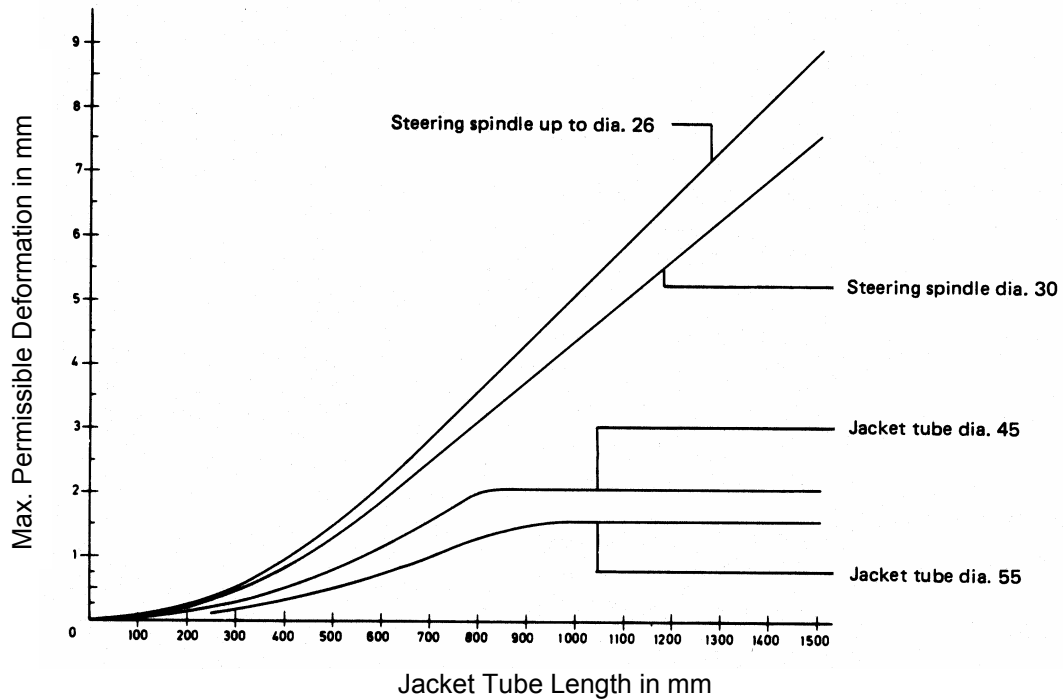

Figure 7. Steering Spindle and Jacket Tube Diameter Chart
- c) By turning steering spindle for min. 360°, check steering spindle for deformation. Measurement can be performed with a dial gauge or a depth gauge. Always take measurement from the same jacket tube peripheral point. The entire radial run-out divided by 2 indicates the deformation of the steering spindle. The maximum permissible deformation depends on length of jacket tube and on the diameter of steering spindle. For this purpose refer to diagram Fig. 7, and subparagraph 4) below for determining jacket tube length.
- 3) **Checking for Permissible Distortion of Jacket Tube.** For this purpose, mark steering spindle at one point of circumference by a line. Then keep turning steering spindle in steps (minimum four steps) and after each step always measure distance to marked point on steering spindle from outside diameter of jacket tube by means of depth gauge. Since the same steering spindle side is facing the measuring point around jacket tube, the own run-out of the steering spindle is not included in the measurement. The difference of the distance, max. dimension to min. dimension, divided by 2, provides the deformation of the jacket tube. The max. possible deformation depends on length and diameter of jacket tube, for this purpose refer to diagram Fig. 7 as well as to explanations of jacket tube length.